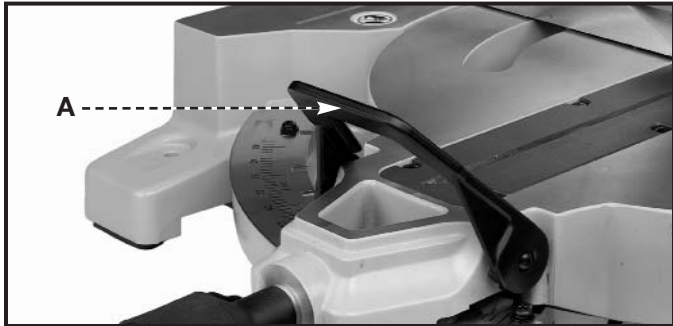
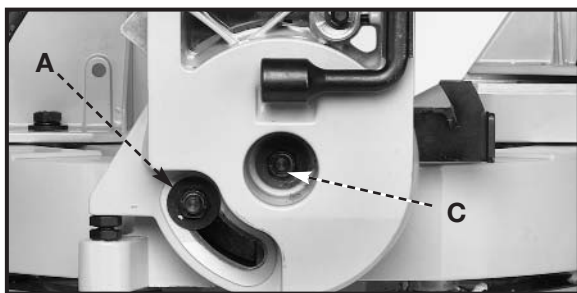

Fig. 26
Fig. 29
2. Lift the front handle (A) Fig. 26 to disengage the bevel lock.
The bevel-locking force has been set at the factory. After a period of time, you may need to adjust the locking mechanism. To adjust, place the bevel-locking handle (A) Fig. 26 in the “UP” position and tighten the nut (A) Fig. 29.
After a period of time, it may become necessary to adjust the sliding fit between the trunnion and the bevel bracket by tightening the adjusting nut (C) Fig. 29 at the rear of the tool.